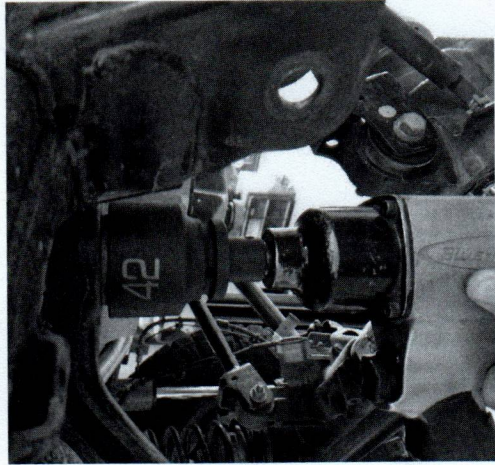

Figure 3. Removing Pitman Arm Nut.
5. Use a 42mm socket to remove the factory pitman arm nut. The pitman arm is a tapered splined fit on the sector shaft and should not come off. You may have to use heat to loosen the factory applied thread locker on the nut. See Figure 3.